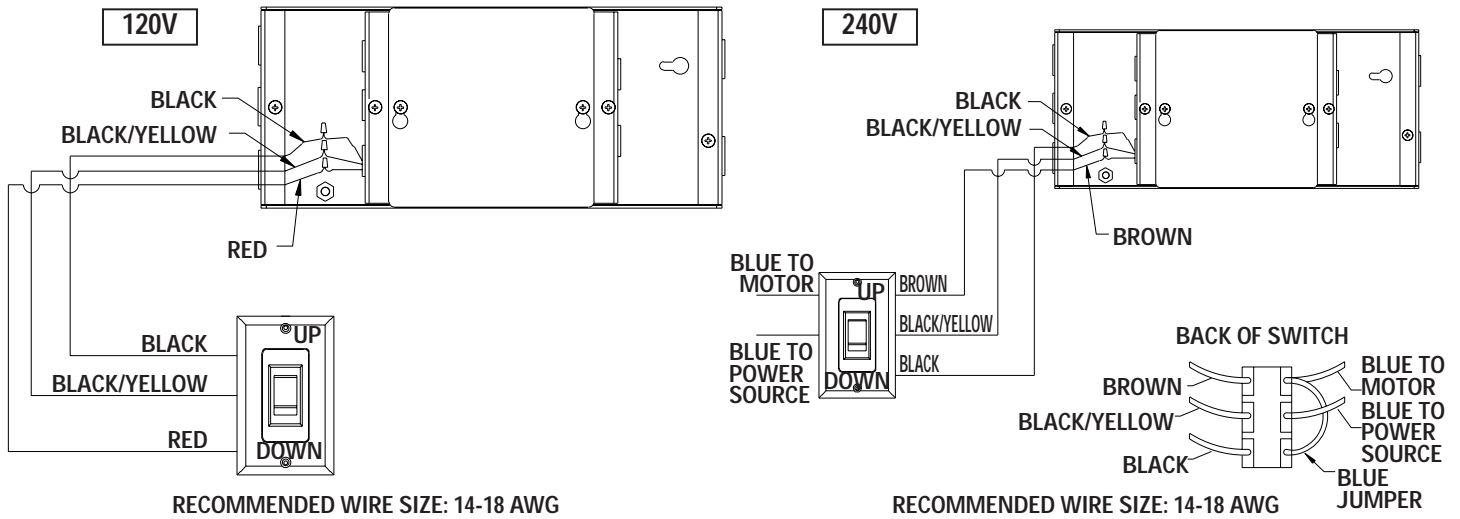

FIGURE 4
2. Connect the extended wires from the wall switch to the VPI wires that are labeled "wall switch". Refer to Figure 4.